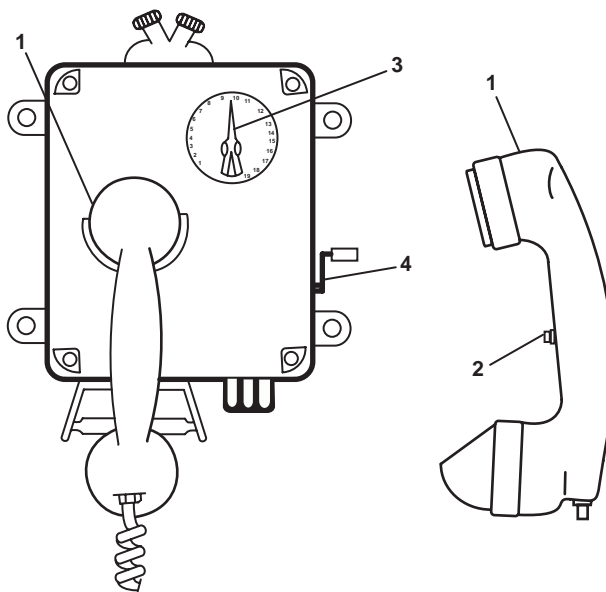

Figure 1. Typical Sound Powered Handset
1. To answer a call, pick up the handset (figure 1, item 1), press and hold the pushbutton (figure 1, item 2), and talk like it is a regular telephone.
- a. Turn the selector knob (figure 1, item 3) to the desired station number.
- b. Turn the magneto handle (figure 1, item 4) clockwise three to four times to signal the station being called.
The handset pushbutton (figure 1, item 2) must be pressed to talk or listen.
- c. Press the handset pushbutton (figure 1, item 2) to communicate with the station you called.